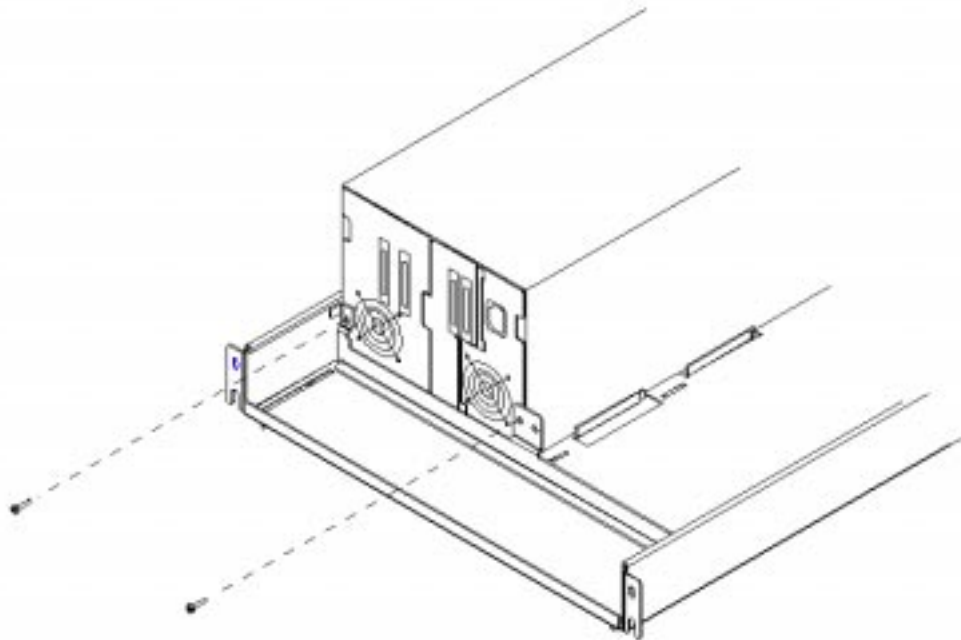

FIGURE 1-7 Securing the Autoloader
9. Secure the unit by installing two M4x10-mm screws through the support bracket and into the rear panel (FIGURE 1-7).